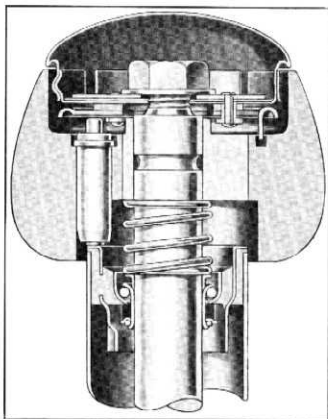

Fig. 15—Standard Wheel
9. Install horn button or ornamental cap. Figure 15 and 16 illustrate steering wheel in cross section.